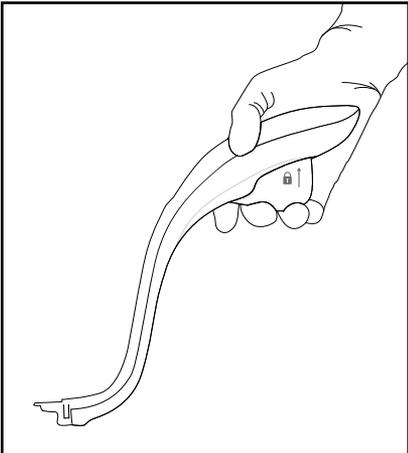
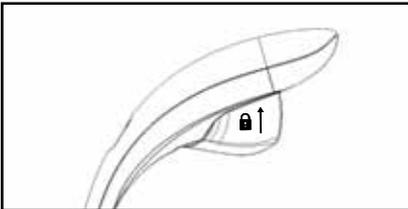

Figure 4. Proper hand positioning when holding the Port Applier
Figure 5. Port Applier trigger in the open position
- Hold the RapidPort® EZ Port Applier as shown (Figure 4). Ensure that the RapidPort® EZ Port Applier trigger is in the fully opened position (Figure 5).